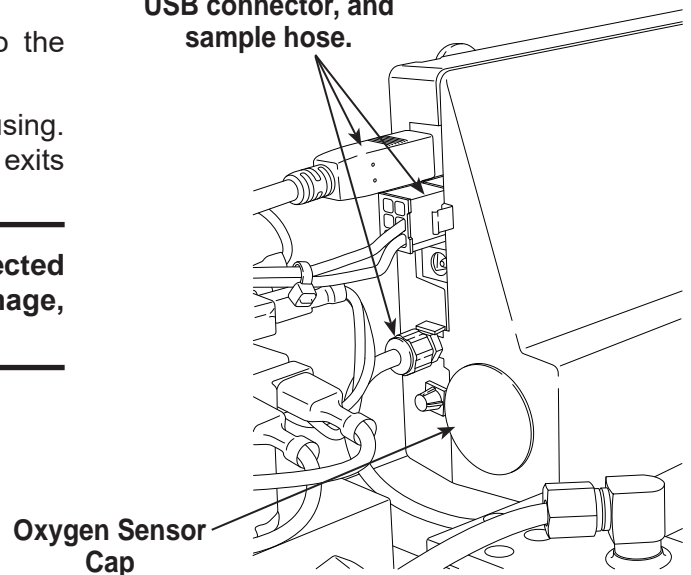

Figure 17
3. Disconnect the wire harness, USB connector, and sample hose from the identifier. See Figure 17.